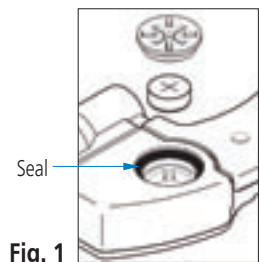

Fig. 1
5. When tightening the output connector cover and battery cap, be careful not to let the rubber seal get trapped by the cap or cover. **(Fig. 1)**